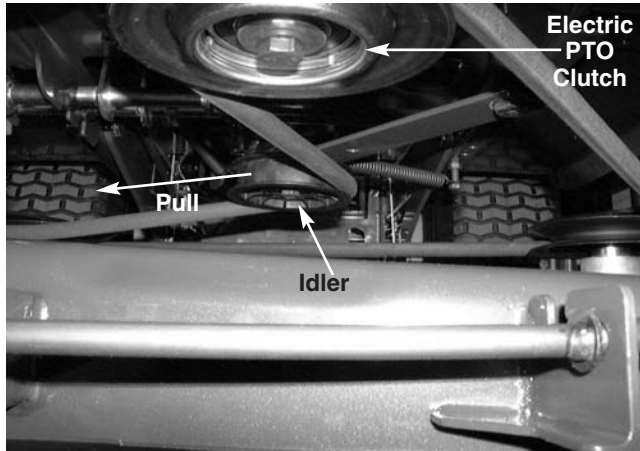

FIGURE 1.
- 2). Pull the PTO idler pulley and bracket towards the discharge chute, relieving belt tension. See figure 1.